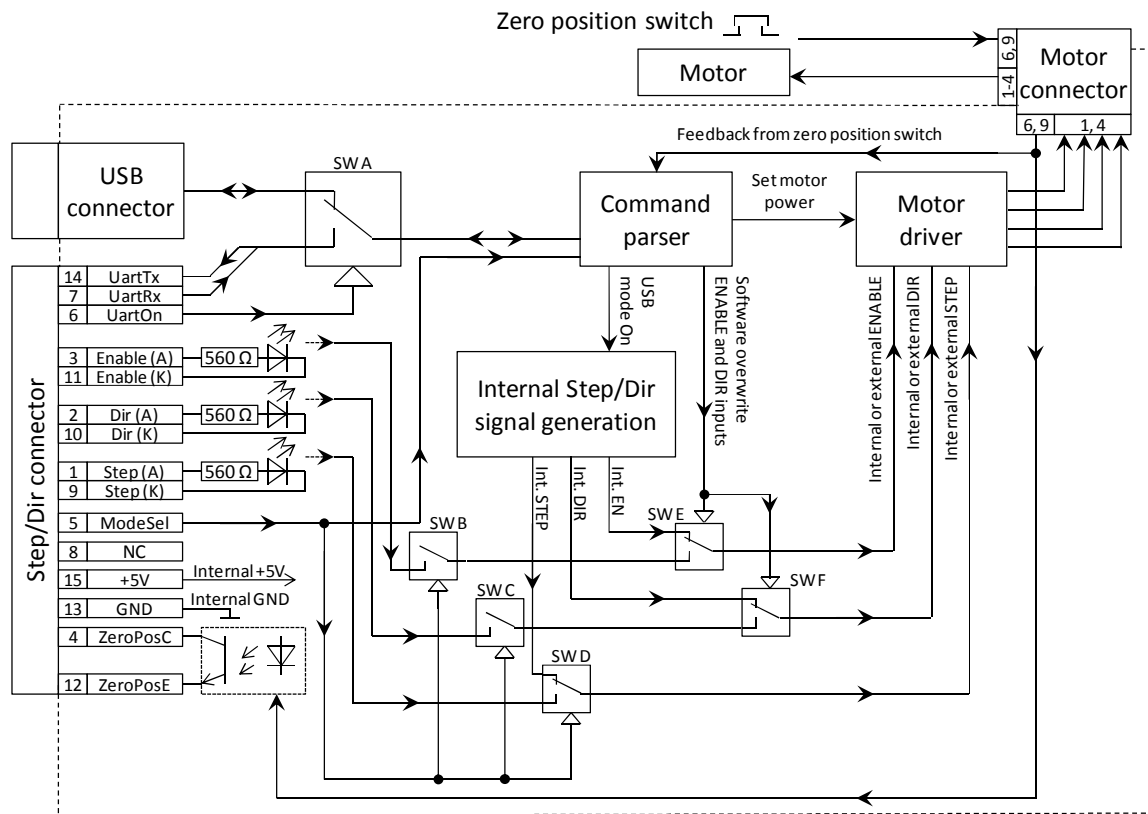

Figure 14. Block diagram of Watt Pilot controller
3.3 V - 5 V compatible input to optocouplers anode Dir (A) and cathode Dir (K). This input controls motor direction in STEP/DIR mode. +5 V on Dir (A) pin with reference to Dir (K) sets motor direction clockwise. This input can be disconnected by command parser – see command line summary in Table 3 and Figure 14 (SW F) for details.
3.3 V - 5 V compatible input to optocouplers anode Enable (A) and cathode Enable (K). This input can disable controllers output in STEP/DIR mode. +5 V on Enable (A) pin with reference to Enable (K) disables motor – no current is applied to the motor. This input can be disconnected by command parser – see command line summary in Table 3 and Figure 14 (SW E) for details.
Then this pin is connected to GND pin (13), controller switches into STEP/DIR mode. If this pin is left unconnected or applied +5 V with reference to controllers ground (pin 13), Step/Dir/Enable inputs become disconnected and controller works in USB mode. ModeSel pin controls internal switches SW B, SW C, SW D (See Figure 14 for details). ModeSel pin is not optically isolated and is pulled up to internal +5 V (See Figure 19).
This pin controls internal switch SW A, which sets command path to the command parser (see Figure 14). Then this pin is connected to GND pin (13), controller can be controlled by 5V UART interface via “UartRx” and “UartTx” pins in “STEP/DIR INTERFACE” connector instead of USB port. Useful, if controller is operated by user’s microcontroller/FPGA. All USB mode commands are valid. If this pin is left unconnected or applied +5 V with reference to controllers ground (pin 13), command parser gets commands via USB port. UartOn pin is not optically isolated and is pulled up to internal +5 V (see Figure 19).
ent x	<p>This command is effective only in STEP/DIR mode.</p> <p>Controls software disconnecting of “Enable” input pin (switch SW E – see Figure 14).</p> <p>Parameter x:</p> <p>1 “Enable” pin is disconnected, motor is enabled.</p> <p>0 “Enable” pin is disconnected, motor is disabled.</p> <p>off motor power is controlled by signals on “Enable” input pin in DB-15 connector.</p> <p>Example:</p> <p>“ent off” – motor power is controlled by input pin. Now send “ss” to save this setting to controller.</p>
dir x	<p>This command is effective only in STEP/DIR mode.</p> <p>Controls software disconnecting of “Dir” input pin (switch SW F – see Figure 14).</p> <p>Parameter x:</p> <p>cw “Dir” pin is disconnected, motor direction is clockwise.</p> <p>ccw “Dir” pin is disconnected, motor direction is counterclockwise.</p> <p>off motor direction is controlled by signals on “Dir” input pin in DB-15 connector.</p> <p>Example:</p> <p>“dir ccw” – set motor direction counterclockwise. Now send “ss” to save this setting to controller.</p>